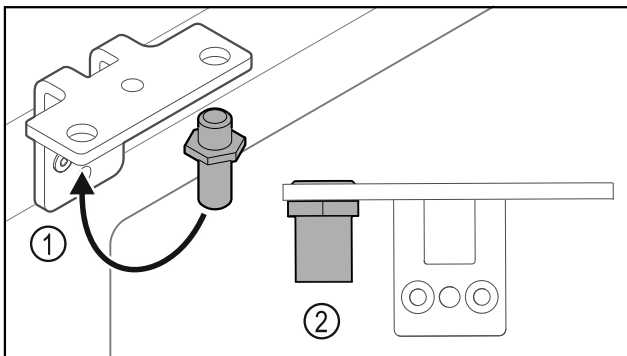

Fig. 33
- Put the pin back into the hinge Fig. 33 (1).
- Tighten the pin Fig. 33 (2) to a **torque of 12 Nm**.